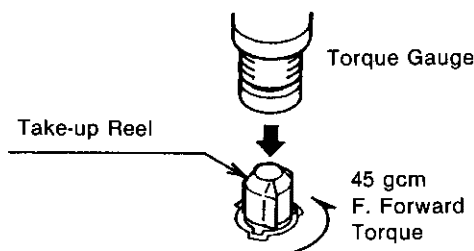

Figure 4
1. Measure the F-FWD torque value. Torque of more than 45 gcm is necessary for fast-forward operation (Figure 4).